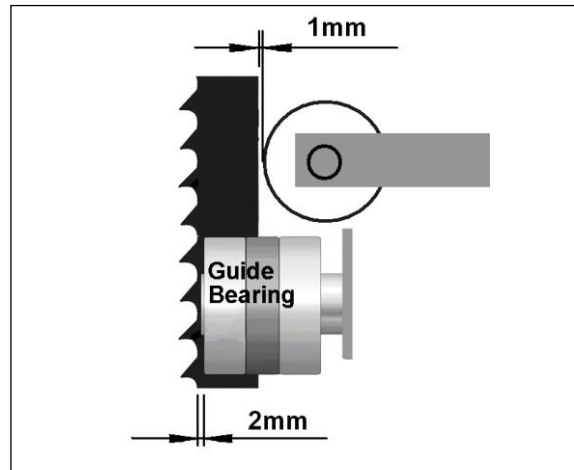

Fig 41
Position the guide assembly forward/ backward so that the teeth keep a distance of approximately 2mm to the guide rollers (Fig 41).
Adjust the back guide roller so that the distance to the saw blade is 1mm (Fig 41).
Adjust the back guide roller with the adjust screw (P) so that the distance to the saw blade is 1mm (Fig 41).